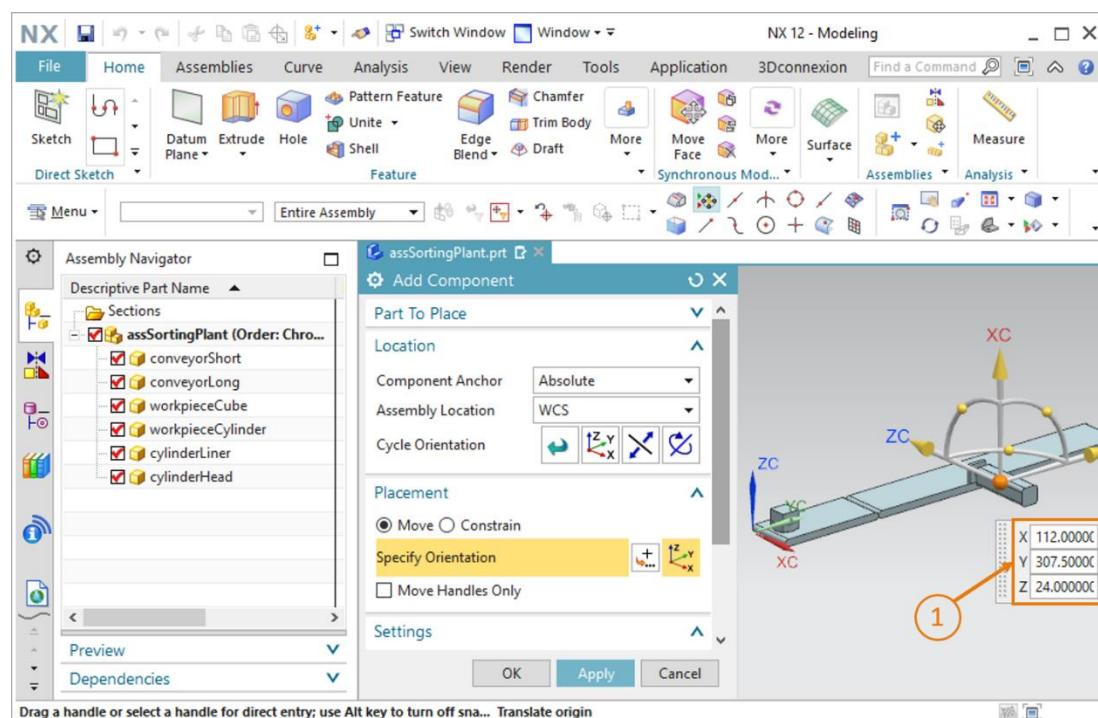

Figure 63: Positioning the "cylinderHead" model in the assembly
- Then, move the component to the following space coordinates (see Figure 63, step 1).